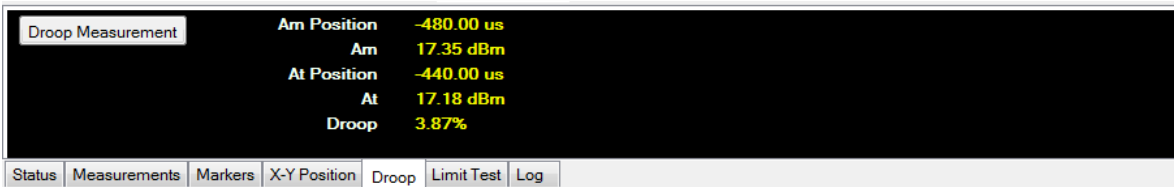

Figure 2-130 Droop measurement view on the multi-purpose pane
- 4 The droop measurement results will be displayed in the Droop Measurement view as shown in Figure 2-130.